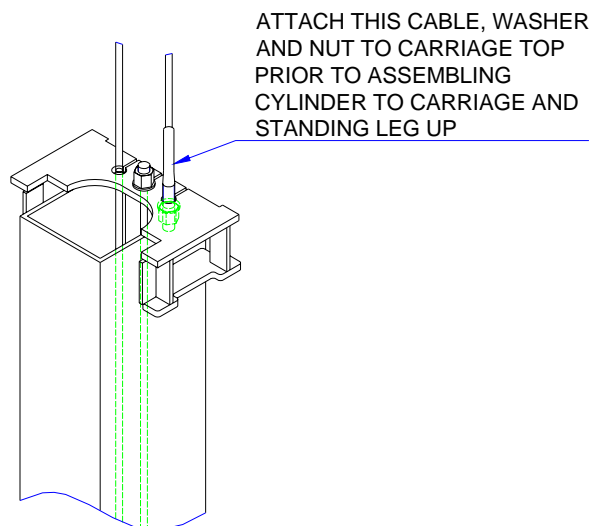

Fig. 6
- M. Feed one end of an equalization cable down through the rightmost hole in the carriage top, figure 6. Continue to feed the cable until it extends out the bottom of the carriage. Attach a nylon insert locknut and washer to the end of the cable so that 1/8" of cable stud extends past the end of nut. Pull the opposite end of the cable until the washer contacts the carriage top. Repeat for the other cable/carriage.